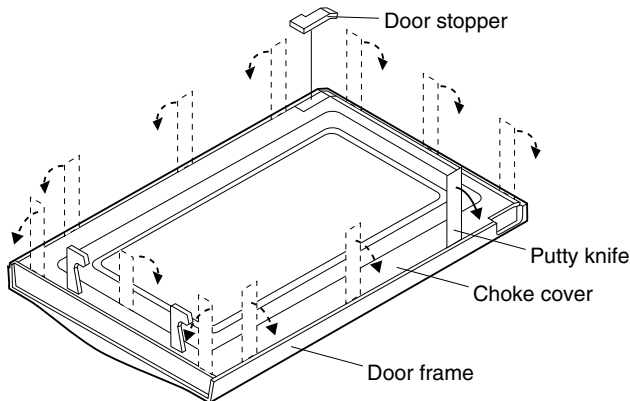

Figure C-7. Door Disassembly
6. Insert an putty knife (thickness of about 0.5mm) into the gap between the choke cover and door frame as shown in Figure C-7 to free engaging parts.